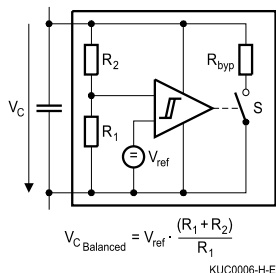

Figure 1
- If the cell voltage U_c (calculated by the formula below) is higher than the average voltage level of the connected UltraCaps, the cell voltage balancing unit closes the switch S (Fig. 1). Cell discharging occurs with approx. 800 mA via the integrated bypass resistor R_{byp} as long as the cell voltage level becomes the average level and the switch S opens again – balanced UltraCaps.